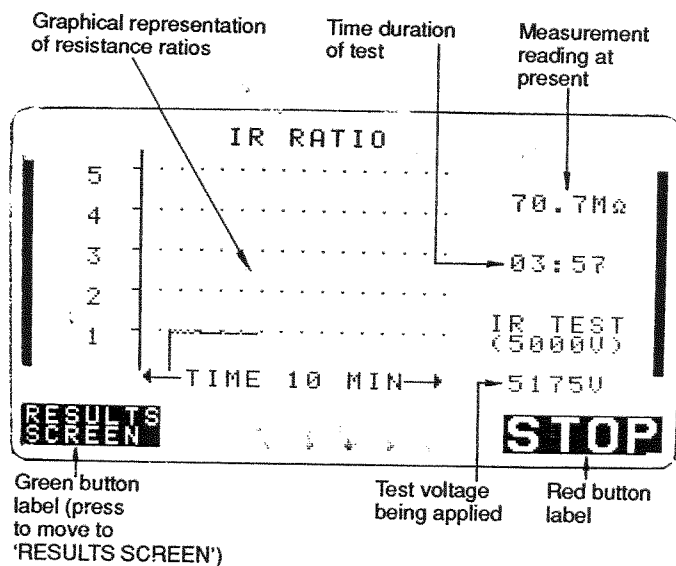

Figure 26 Typical 'GRAPHIC DISPLAY' screen for an enhanced IR test
7. In the enhanced test three screen displays are available. Pressing the green button cycles between the three displays. This button has the label of the next screen display available i.e. the 'RESULTS SCREEN', followed by 'ANALOGUE DISPLAY', followed by 'GRAPHIC DISPLAY'. Typical examples of the 'RESULTS SCREEN' and the 'GRAPHIC DISPLAY' and what they show are illustrated in figures 26 and 27.